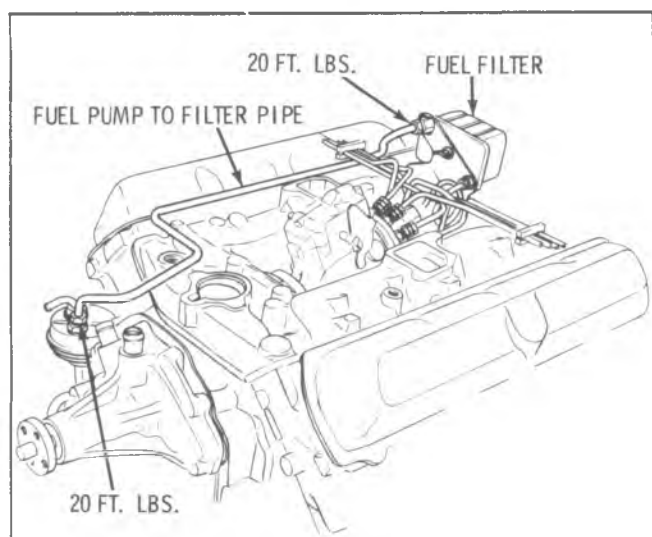

Fig. E-15—Fuel Filter and Lines
7. Remove lines to fuel filter, then remove fuel filter. (Fig. E-15)